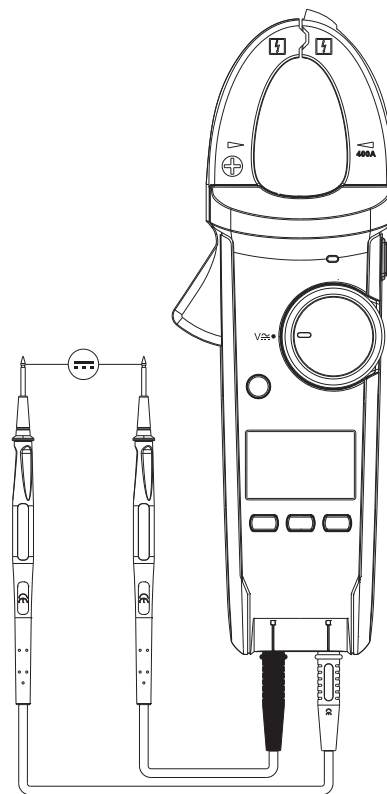

Figure 5
4. Measuring of DC Voltage (See Figure 5)